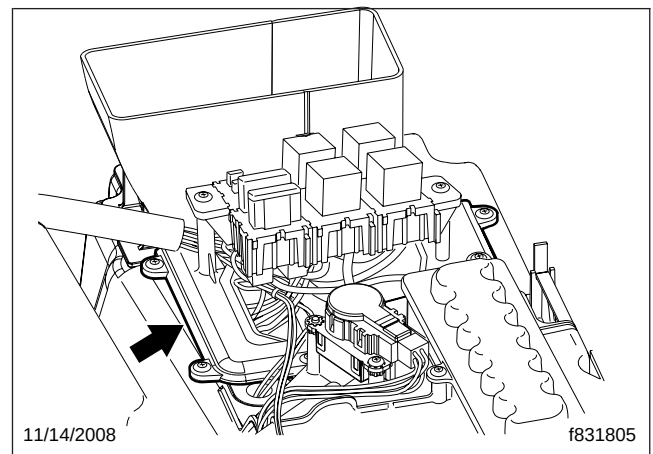
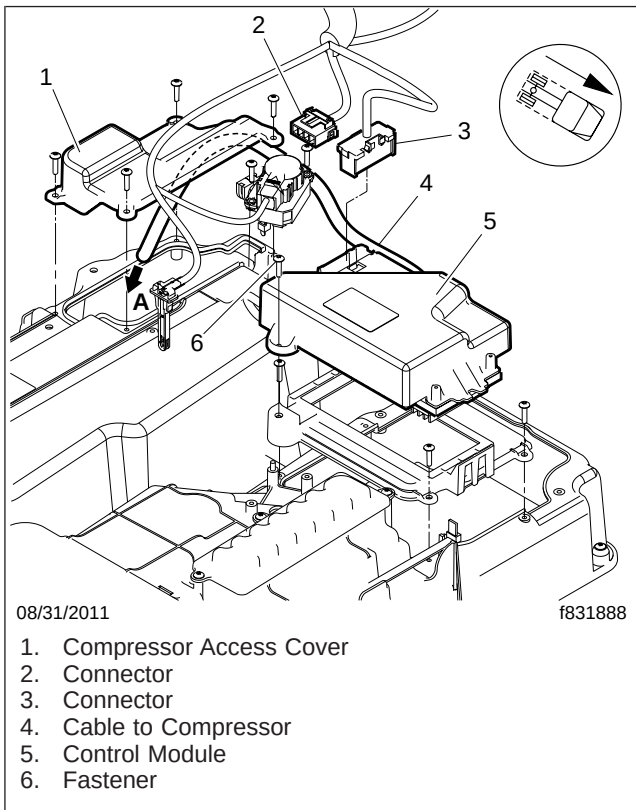

Fig. 4, Blower Access Cover
Fig. 5, Control Module Installation (from July 2011)
15. Remove the blower access cover with the fuse/relay panel, or unit control module. See Fig. 4 for fuse/relay panel installations, or Fig. 5 for unit control module installations.
14. Remove the unit control module and blower access cover. See Fig. 4.